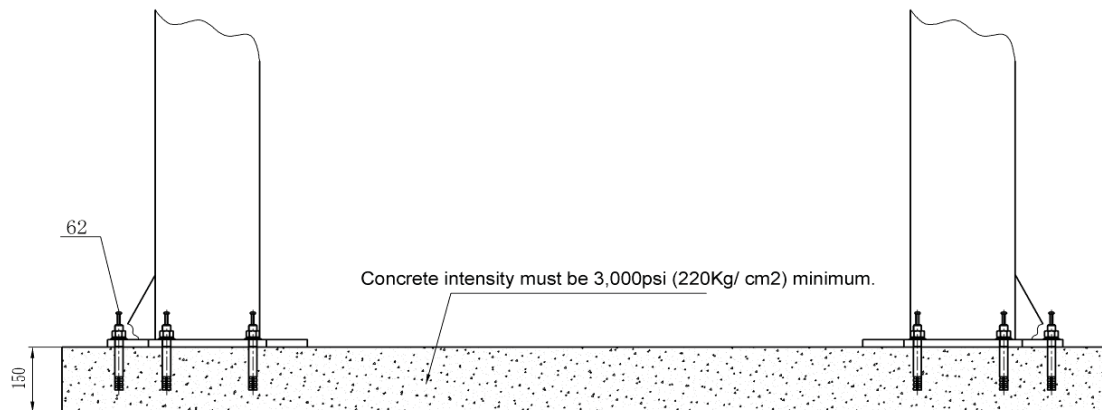

Fig. 3
B. SPECIFICATIONS OF CONCRETE (See Fig. 3)